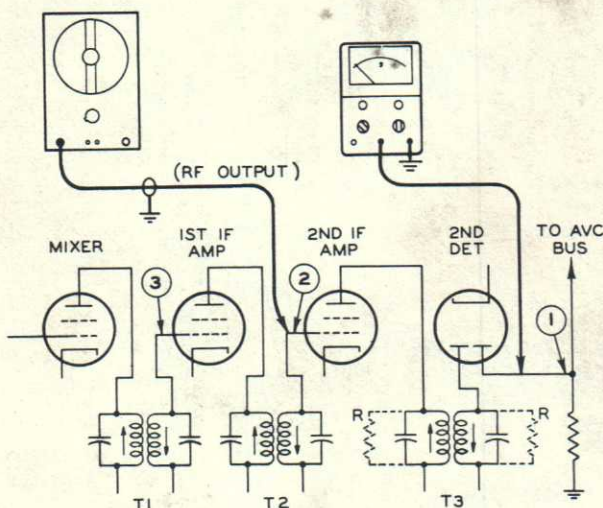

Figure 21. Setup for aligning am broadcast receivers
Figures 21 and 22. Aligning AM and FM broadcast receivers.
1. Set up the VoltOhmyst to measure dc voltage and connect it across the load resistor of the second detector, shown as point "1" in Figure 21.
3. Connect the rf output cable of the generator to the grid of the last if stage, shown as point "2" in Figure 21, and tune the WR-50B to the intermediate frequency of the receiver (usually 455 kc). Apply modulation and use only enough output to produce a usable meter reading.